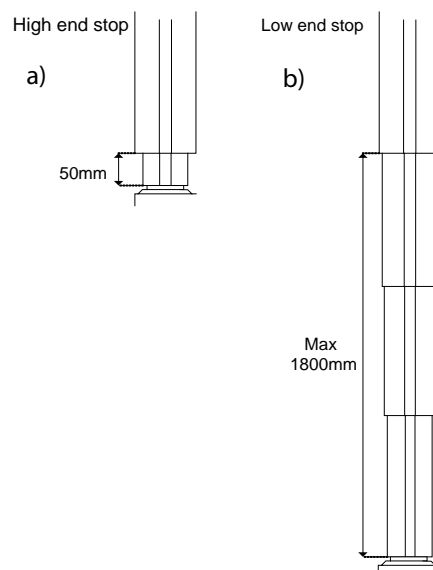

Fig. 4-119 High and low end stops
9. Place the stand (Z) at the position for the high end stop, see Fig. 4-119 *High and low end stops*.
11. Place the stand (Z) at the position for the low end stop (maximum range of 1750 mm, between the end stops, see Fig. 4-119 *High and low end stops*).
3. Move the Z-axis upward until the inner segment of the column is 7 cm from the outer segment, see a) in Fig. 4-119 *High and low end stops*.
11. Place the stand (Z) at the position for the low end stop (maximum range of 1750 mm, between the end stops), see b) in Fig. 4-119 *High and low end stops*.